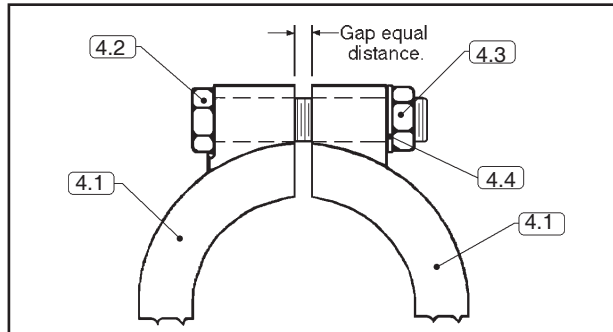

Figure 3 : Clamp Orientation
4. Lubricate I.D. of stem seals (9). Insert the upper end of the stem (3,10) through the bonnet (2) and through both stem seal rings (9).
5. Set bonnet (2) with inserted plug/stem onto the flange of the body (1). Lower plug/stem until it touches the body seat. Press down firmly on the stem (3, 10) upper end.
6. Re-position clamps (4.1), bolts (4.2), washers (4.4), and nuts (4.3) around the body (1) to-bonnet (2) joint. Rotate clamp nuts (4.3) a few revolutions in an alternating pattern to hold clamp assembly. Align matchmarks. Position both hands around the outside of the Tri-Clamp®, push the clamp towards the valve's center. Ensure proper alignment of body (1)
with bonnet (2) by checking OD of flanges. Finger-tighten clamp nuts (4.3). **NOTE:** *Gap between clamp (4.1) halves should be equal in size. See Figure 3.*
8. Reinstall actuator assembly (AA) to body assembly (BA) per Section V.G. or V.H.